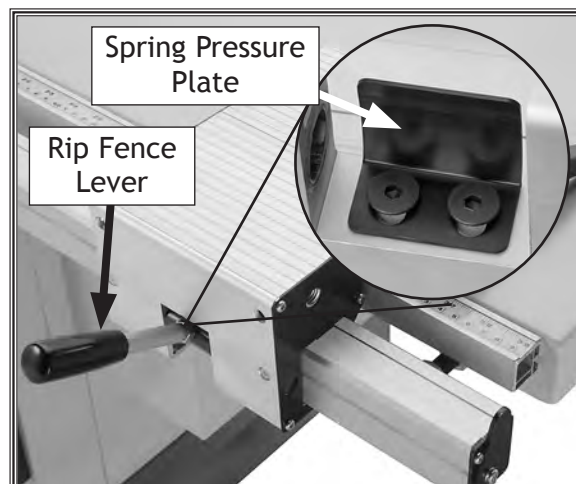

Figure 20. Location of spring pressure plate for fence slide adjustments.
Note: The fence should slide smoothly on the rail; if it doesn't, remove the fence base and adjust the spring pressure plate mounting position on the fence base (see **Figure 20**), by loosening the two screws and repositioning the pressure plate slightly.
13. Thread the rip fence lever into the fence base (**Figure 20**), tighten the hex nut against the rip fence base to keep the lever in place.